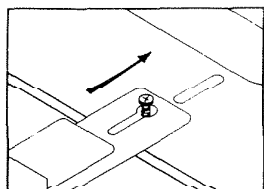

FIGURE 13
4. Attach master panel to rough-in frame by placing keyhole slots in both mounting hinges over screw heads in rough-in frame. See Figure 13.